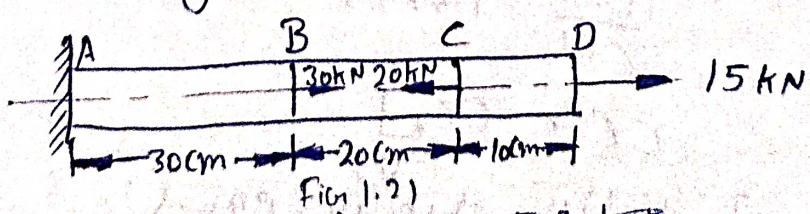

Fig 1.21
5. A steel bar of  $30\text{mm}$  diameter is loaded as shown in Fig 1.21. Determine the stress in each portion & the total elongation.  $E = 210 \text{ GPa}$